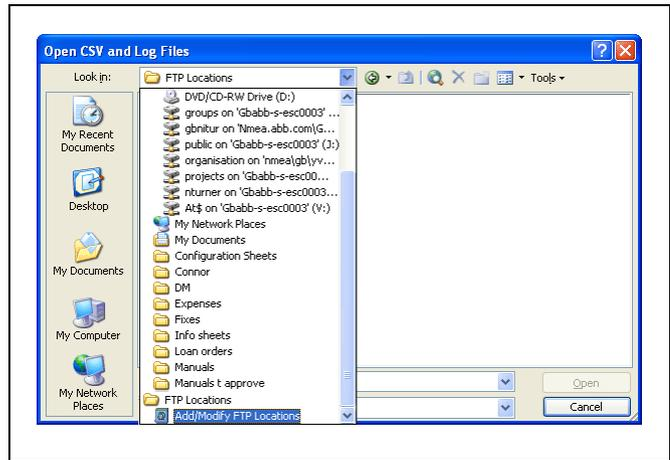
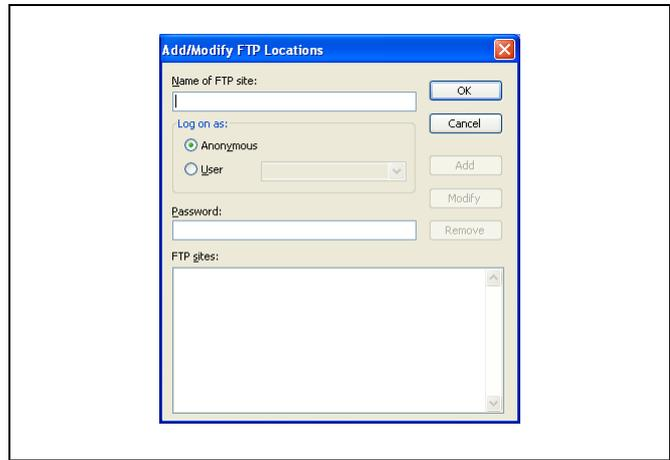

Fig. 3.14 'Look in:' Drop-Down Menu
Fig. 3.15 Add/Modify FTP Locations Dialog Box
8. Open the *Look in:* drop-down menu button and select 'Add/Modify FTP Locations' – see Fig. 3.14. The Add/Modify FTP Locations dialog box is displayed – see Fig. 3.15.